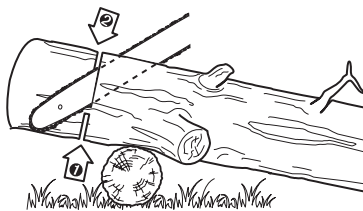

Fig. 33
2. When the log is supported on one end (Fig. 33), cut 1/3 the diameter from the underside (underbuck). Then make the finished cut by overbucking to meet the first cut.